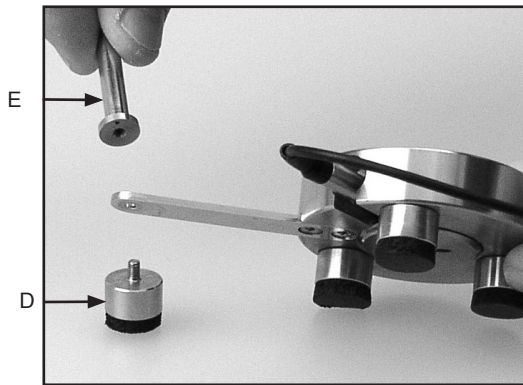

Fig. 3.2
3. Fig. 3.2: Unscrew the foot, D.